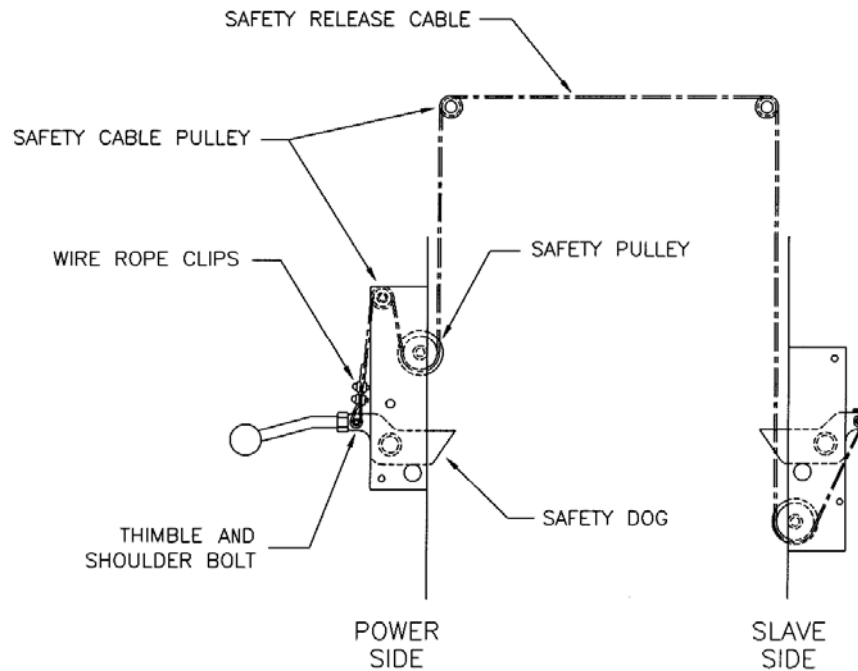

Figure 10 – Safety Release Cable Routing and Adjustment
1. Refer to **Figure 10** for safety release cable routing. The end with the collar is to be installed onto the slave side tower, while the loose end will be installed onto the power side tower with two (2) wire rope clips.